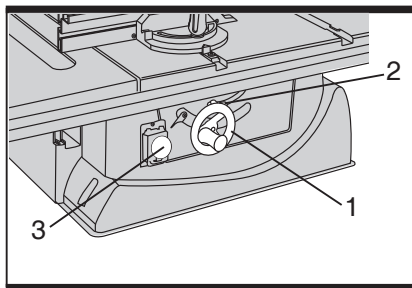

Fig 18
The main switch (3), No Volt Release (NVR) switch, is on the front of saw base. Press "1" to turn on the power; press "O" to turn off the power (See fig. 18).
Loosen the saw blade tilt lock handle (2), move the hand wheel until the saw blade is at the desired angle and tighten the saw blade tilt lock handle (See fig. 18).